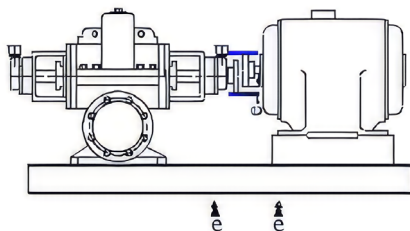
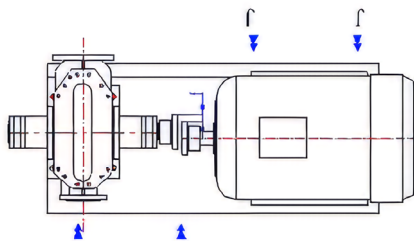

Figure 4: Parallel axis misalignment in vertical plane and its correction
Figure 6: Parallel axis misalignment in horizontal plane and its correction
1. Parallel axis misalignment (Figure4 - Figure 6)